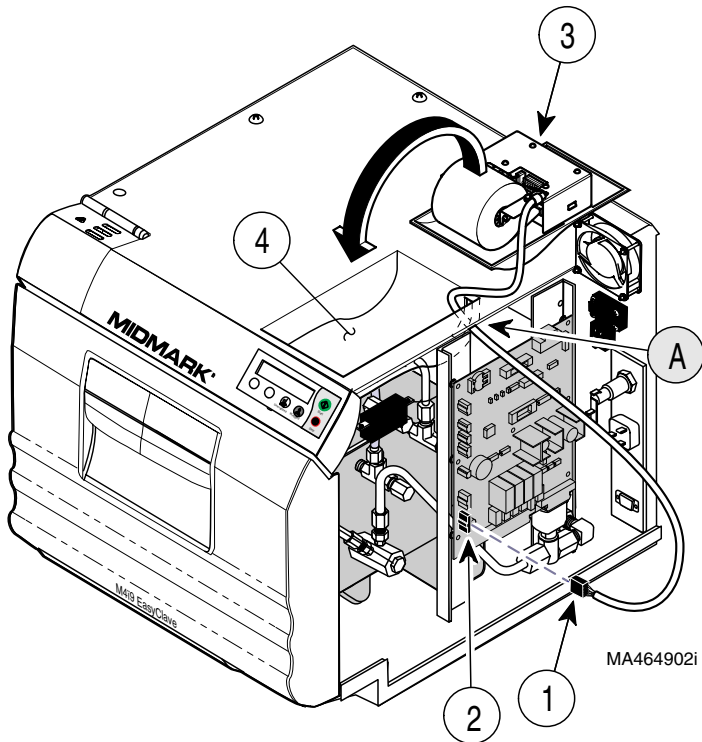

Figure 2
6. Route loose end of PCB printer harness (1, Figure 2) through slot (A) in printer cavity (4) of top cover.
7. Plug PCB printer harness (1) into printer terminal (2) of PC Board.
8. Position printer assembly (3) in printer cavity (4).